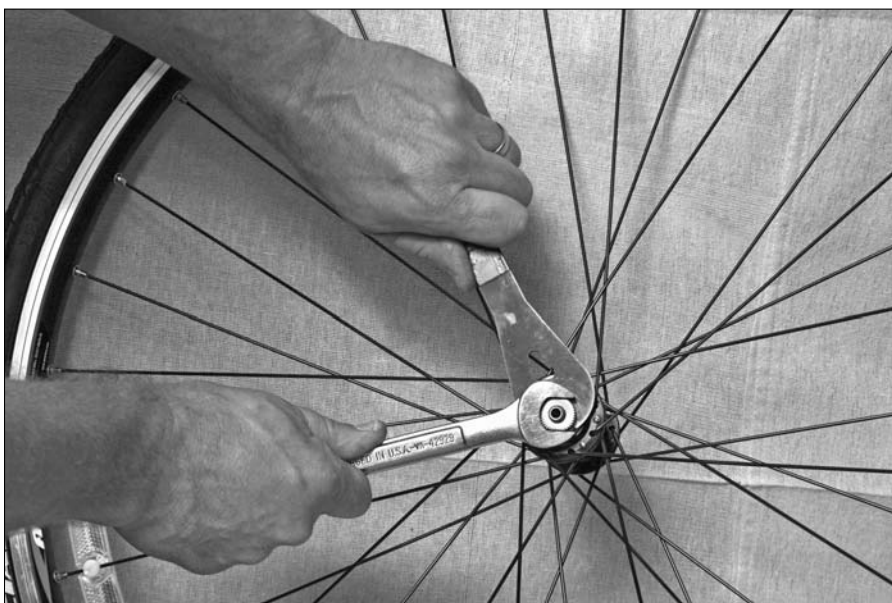

Figure 7-5:
3. On the other side of the hub, using a cone wrench, secure the cone in place while you loosen the locknut in a counterclockwise direction on the same side of the hub (see Figure 7-5).